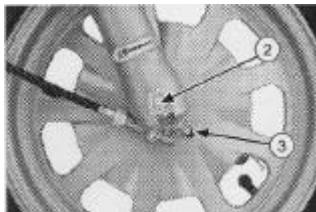

Fig. 19
3. Remove the wheel pin (2- FIG. 19), taking note of the positioning of the spacers and the device connecting to
2. Once the wheel pin (2 -FIG. 19) has been inserted, compress the fork so as to align the tubes.